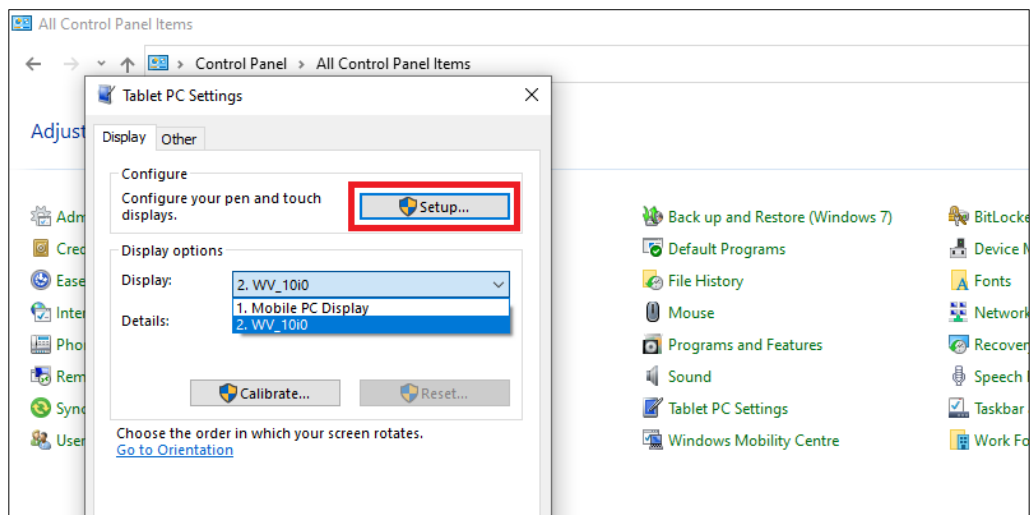

Figure 28: "Tablet PC Settings" dialogue – Setup.
- 4 Click on the "Setup" (see Fig. 28),